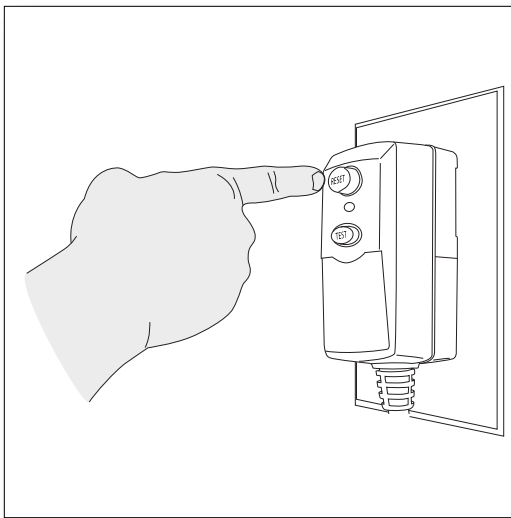

Fig. 21
- Unwind the power cord completely and plug the GFCI into a grounded 120 volt outlet. Press the ‘reset’ button on the GFCI box (*Fig. 21*). The indicator window should show a red color. This must be done each time the unit is plugged in.